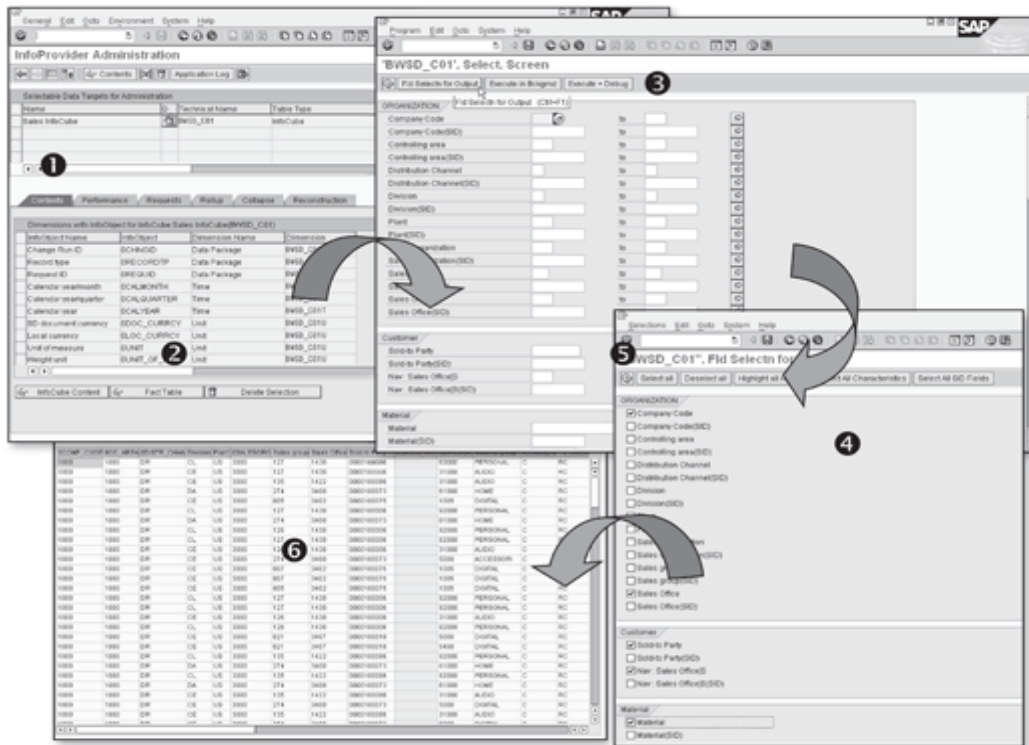

Figure 14.13 View Contents of InfoCube
The Contents tab (❶ of Figure 14.13) on the administration screen allows you to view the contents of the InfoProvider. This can be helpful in investigation and reconciliation of inaccurate data in the reports (Figure 14.13). You can choose to see contents of the entire InfoCube or only the fact table of the InfoCube by clicking on the appropriate button (❷).